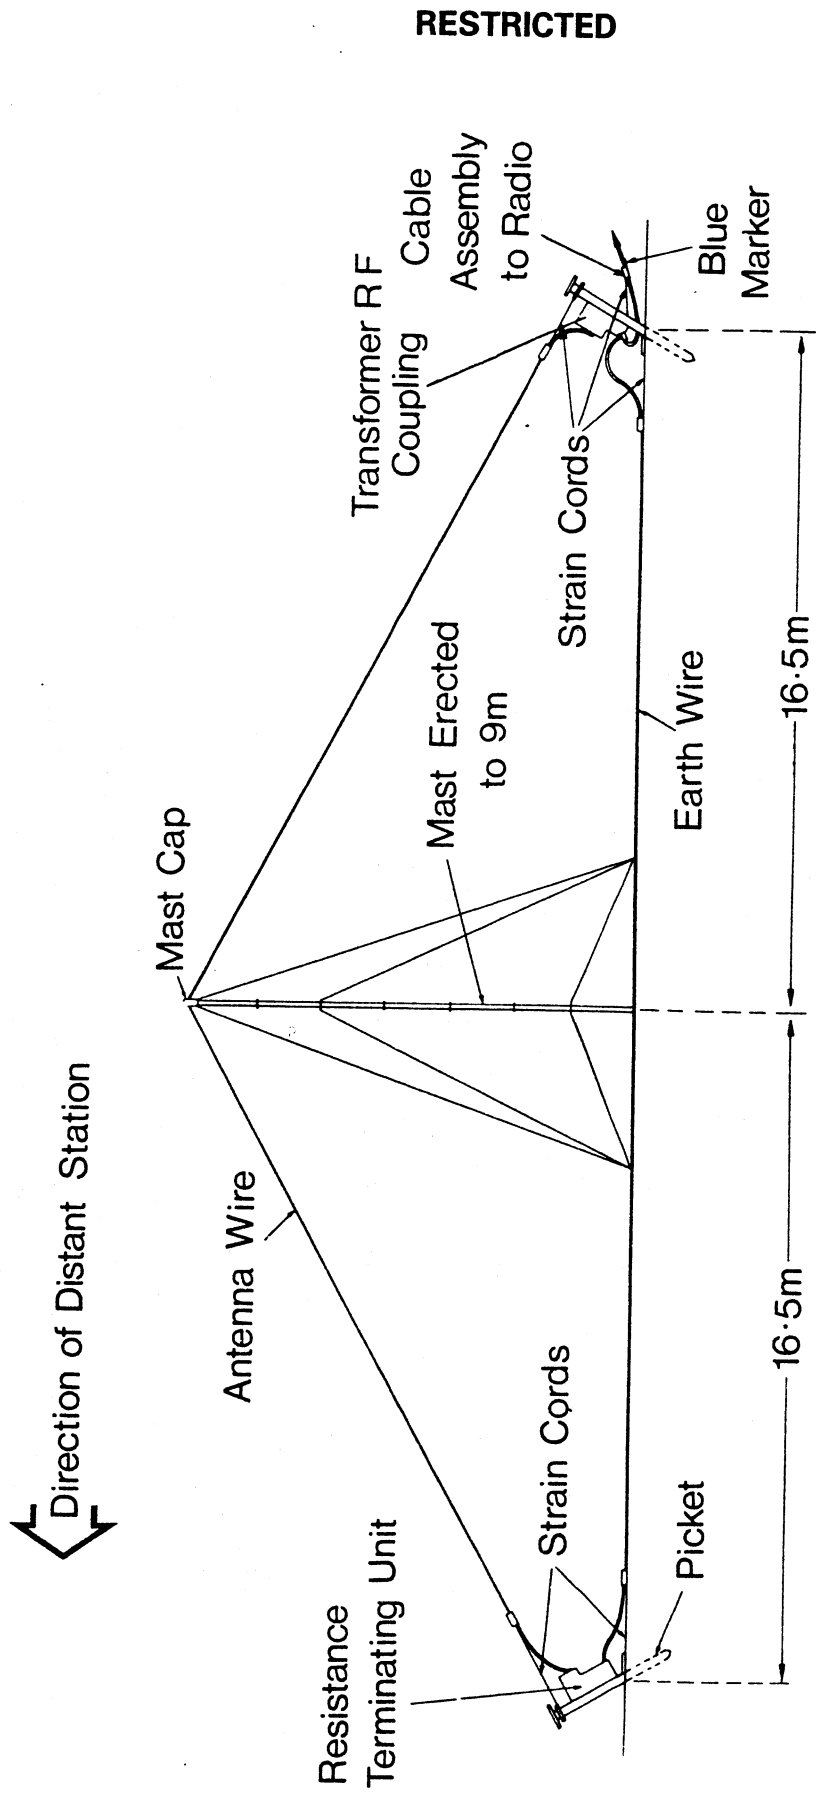

Fig 94.—VHF Inverted 'V' Antenna—Erected
0556. At the chosen site, an unobstructed space 33m long and 9m high in line with the distant station, assemble and erect the antenna as follows (*Fig 94*):
- j. Clamp the transformer and resistance units to the flat face of the pickets (*Fig 94*), ensuring the resistance unit is on the picket nearest to the distant station.